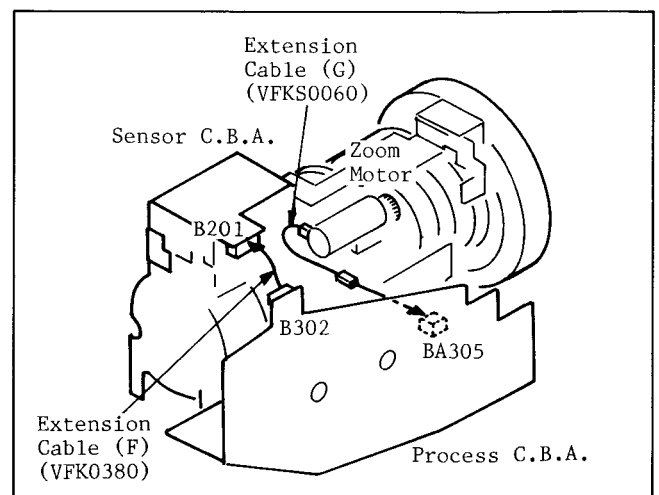

Fig. 3
When servicing the Camera Section, connection of the Extension Cable (F) (VFK0380) and extension Cable (G) (VFKS0060) are necessary as shown in Fig. 3.
- (1) Connects the Extension Cable (F) (VFK0380) between B302 on the Process C.B.A. and B201 on the Sensor C.B.A.
- (2) Connects the Extension Cable (G) (VFKS0060) between BA305 on the Process C.B.A. and Zoom Motor Unit.